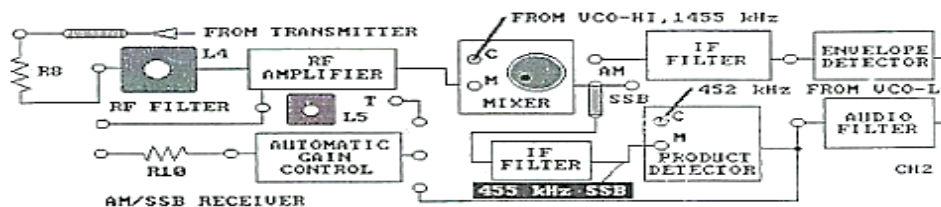

Figure 5-23.
14. Connect the output of the 452 kHz VCO-LO circuit block (which also connects to the transmitter's modulator) to the BFO input (C) of the PRODUCT DETECTOR, as shown in Figure 5-23.